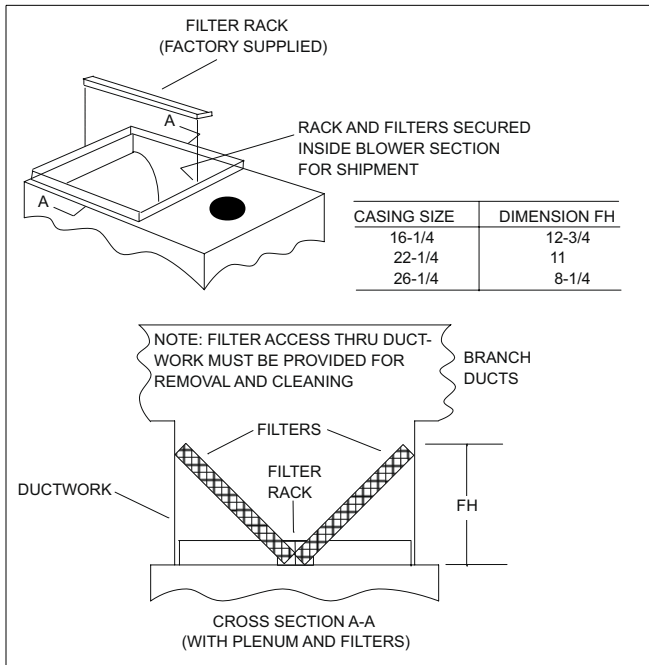

FIGURE 6 : downflow filters
Any branch duct must attach to the vertical ductwork above the filter height (FH) and for proper installation refer to Figure 6 .